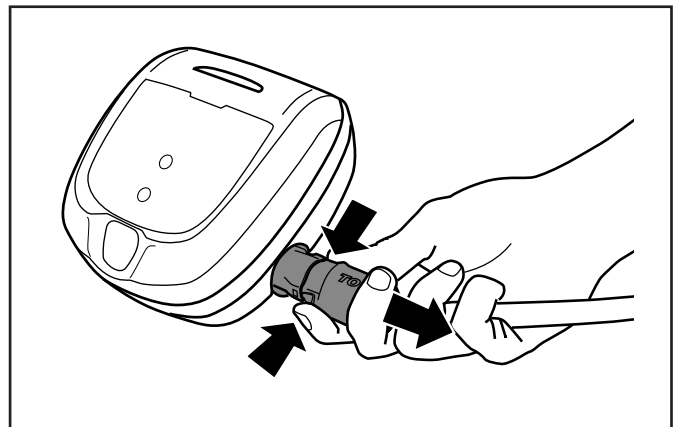

Figure 2. Disconnect the Power Cord
- Grip the power cord firmly on each side and press two tabs to release (see Figure 2.)